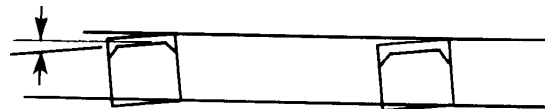

Figure 4
3.8 *lead twist* — angular rotation on bonding fingers (see Figure 4).